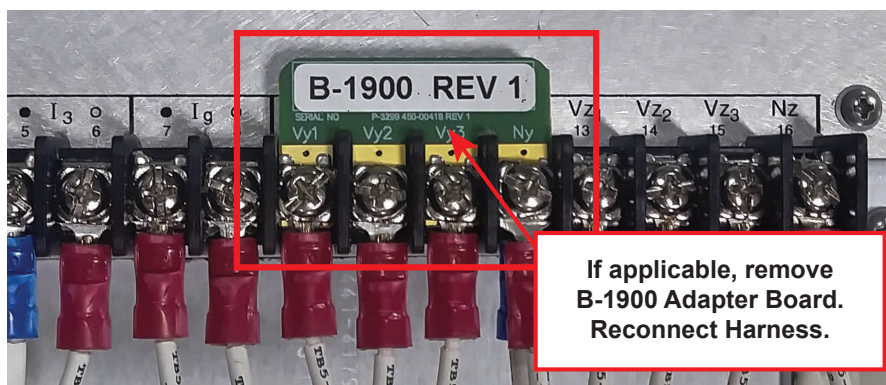

Figure 9 B-1900 IVS Adapter Board
1. Remove the B-1900 Adapter Board (Figure 9) by loosening the retaining screws on TB5 positions 9 (Vy1), 10 (Vy2), 11 (Vy3), and 12 (Ny).